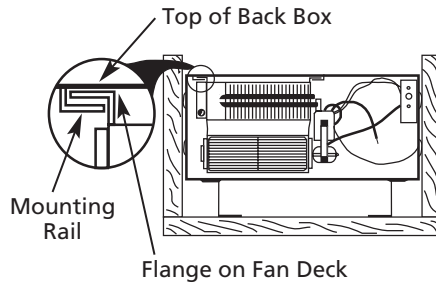

Figure 8
2. Insert flanges on fan deck into mounting rails and slide back until fan deck stops (see Figure 8).